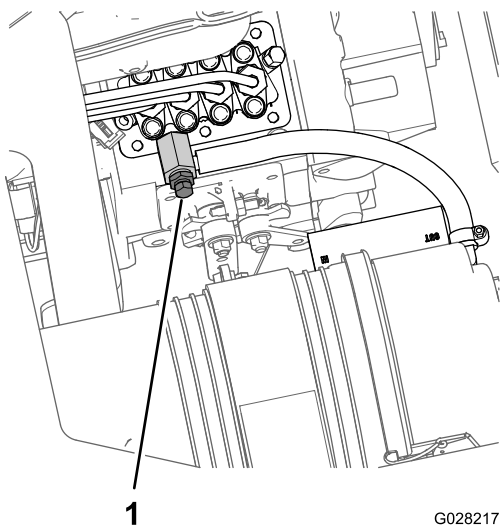

Figure 75
8. Align the drain pan under the fuel-injection pump portion of the engine (Figure 75).
9. Open the air-bleed screw at the fuel-injection pump (Figure 75).
11. Leave the key in the ON position until a solid stream of fuel flows out around the bleed screw (Figure 75).
12. Tighten the bleed screw (Figure 75) and turn the key to the OFF position.